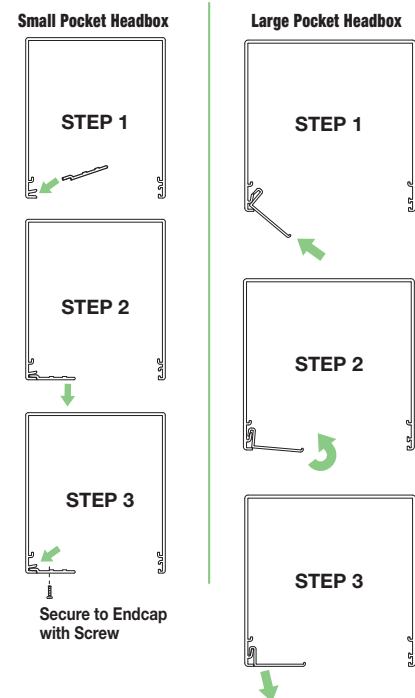

Figure 7
6. Attach headbox fascia or pocket closure (see Fig. 7).